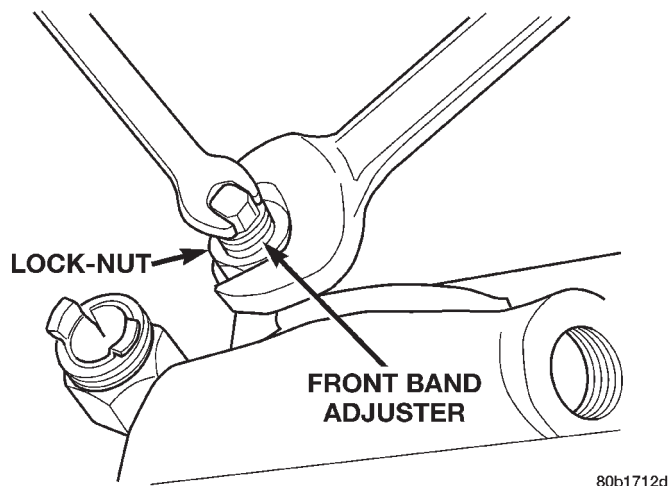

Fig. 248 Front Band Adjustment Screw Location
- (1) Raise vehicle.
- (2) Loosen band adjusting screw locknut (Fig. 248). Then back locknut off 3-5 turns. Be sure adjusting screw turns freely in case. Apply lubricant to screw threads if necessary.
- (3) Tighten band adjusting screw to 8 N·m (72 in. lbs.) torque with Inch Pound Torque Wrench C-3380-A, a 3-in. extension and 5/16 socket.